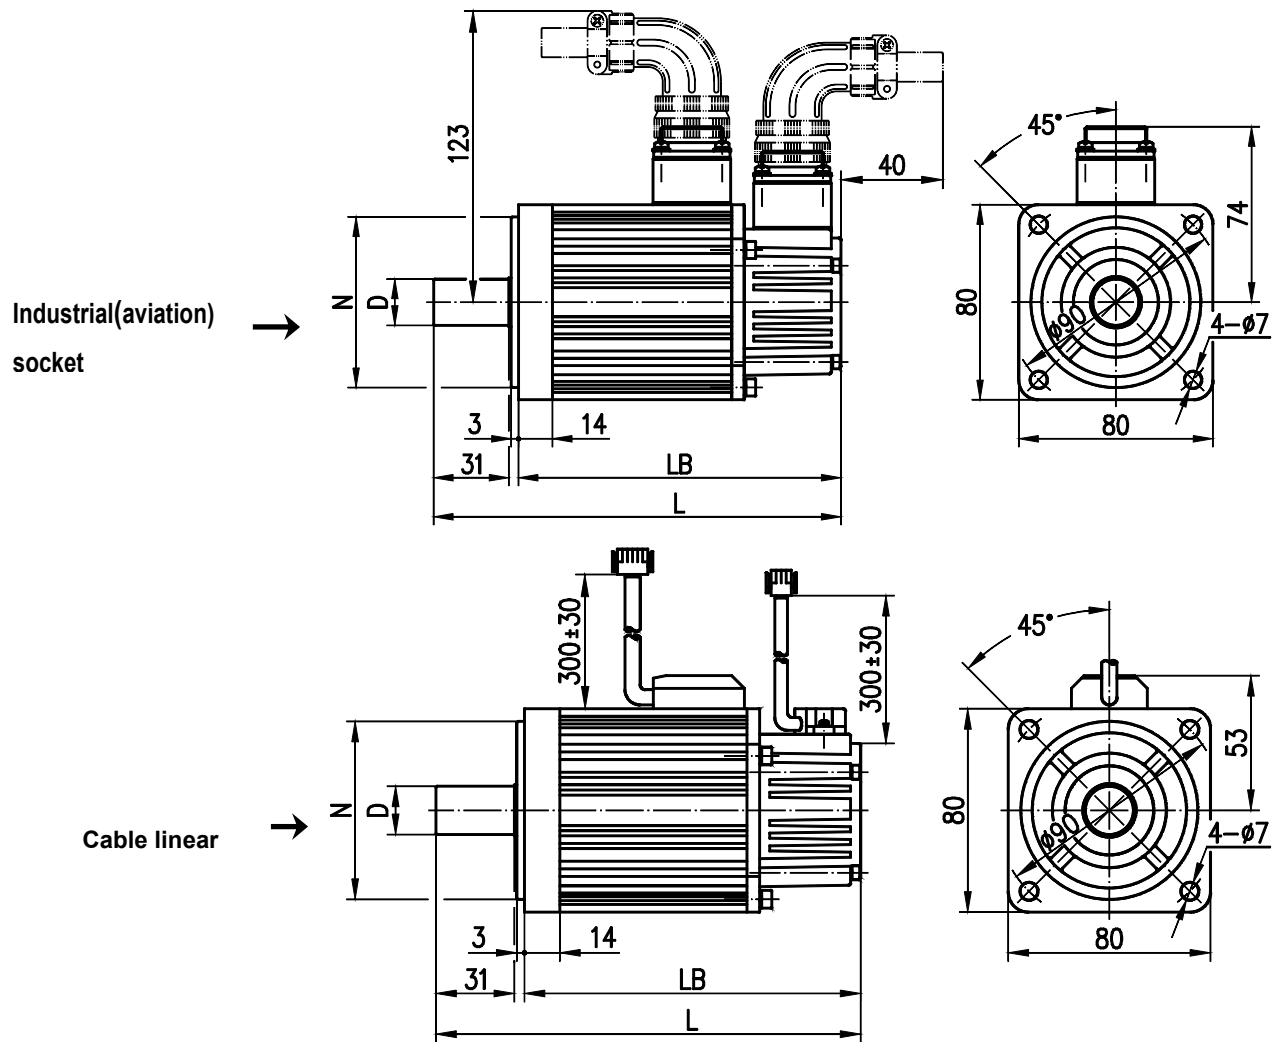

Fig. 2-1
- Outline installation dimension and connection of 80SJT series motor referred to Fig. 2-1, Table 2-1.